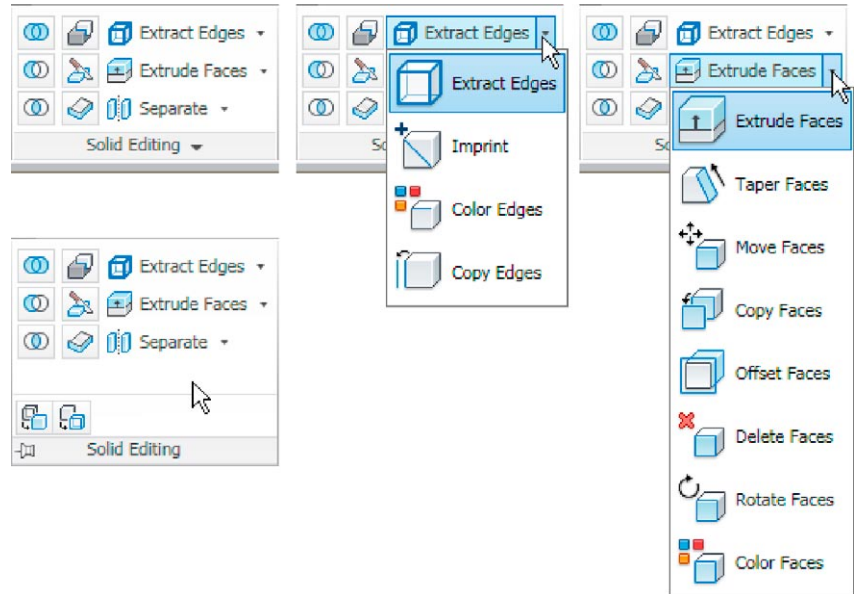

Fig. 18.1 The Home/Solid Editing panel
The **Solid Editing** tools can be selected from the **Home/Solid Editing** panel (Fig. 18.1).
6. Click the **Extrude faces** tool icon in the **Home/Solid Editing** panel (Fig. 18.1). The command line shows:
2. Click on the **Move faces** tool in the **Home/Solid Editing** panel (see Fig. 18.1). The command line shows:
2. Click on the **Offset faces** tool icon in the **Home/Solid Editing** panel (Fig. 18.1). The command line shows: